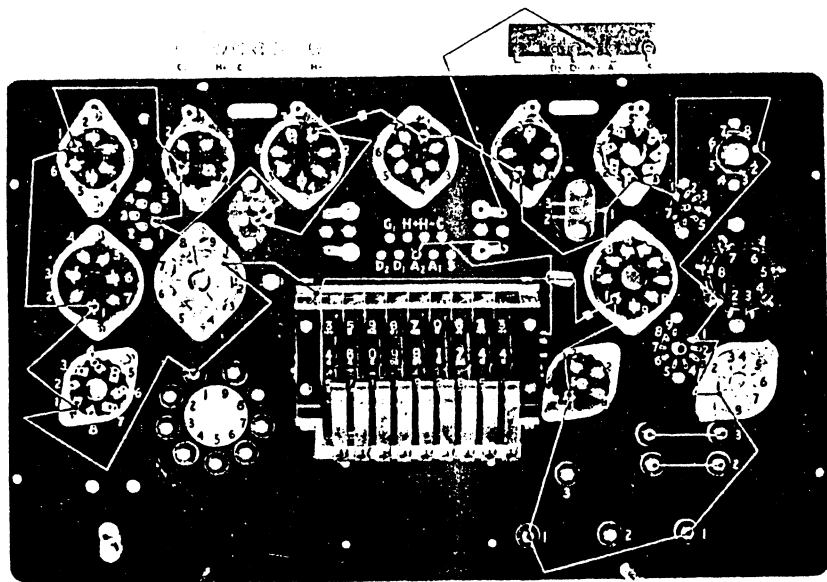

FIG. 14.
31. The Valve Holder Panel is connected electrically to the control panel by means of two 5-way side-by-side cables. One of these cables embodies two thicker sections (16/012") for H+ and H— leads. Connections to tag boards on either unit are shown in Fig. 14.
32. The wiring of the valve holders on the panel is in the form of nine separate loops, all pins 1 comprising a loop and linking in roller 1 of the ROLLER SELECTOR switch. This form of loop connection is used likewise for pins 2—9, all nine circuits approximating in length and following a similar route around the panel. These loops are further loaded with beads of ferroxcube which sufficiently damp the loop to prevent the valve under test breaking into parasitic oscillation. A diagrammatic layout is shown in Fig. 14. Ferroxcube is also used on leads feeding the SELECTOR SWITCH, as a precaution against L.F. oscillation. Where it is necessary to replace valve holders, these, with the exception of the BSB, are fitted to the panel with nuts and bolts, and are, thus, easily removable. Care should be taken to replace all wiring in its original position.